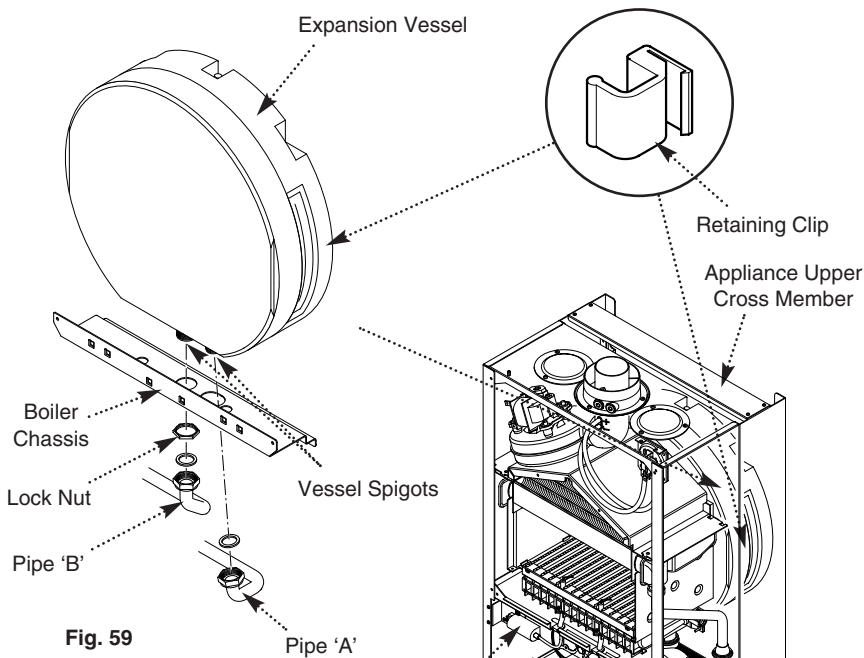

Fig. 59
12.16 Expansion Vessel & Pre-Heat Store(Fig. 59)
4. Undo the unions on pipe 'A' and remove the pipe (Fig. 59).
5. Undo the union on pipe 'B' connected to the vessel (Fig. 59) and remove the locknut securing the vessel spigot to the boiler chassis.